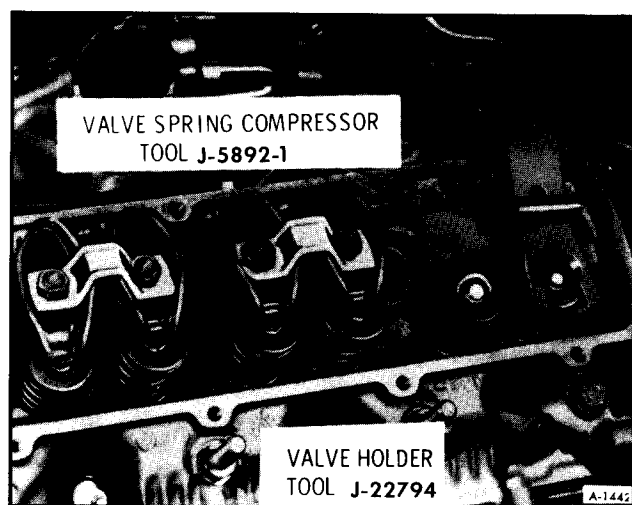

Figure 35—Removing Valve Spring
3. Remove spark plug and install Tool J-22794 into spark plug hole and attach to an air hose to hold the valve against its seat. (See figure 35).
4. Install Tool J-5892-1. See Figure 35. Compress